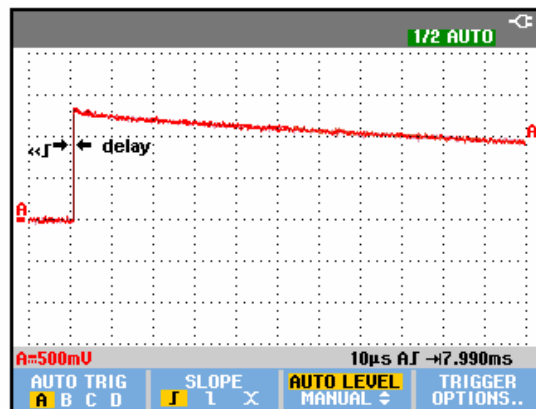

Figure 4-7. Time Base Verification
5. Examine the rising edge of the time marker pulse at the height of the trigger level indicator top. Verify that the rising edge is at the second grid line from the left. The allowed deviation is ±3 pixels, see Figure 4-7.
9. Examine the rising edge of the time marker pulse at the vertical height of the trigger level indicator top. Verify that the rising edge is at the second grid line from the left. The allowed deviation is ± 3 pixels, see Figure 4-7.